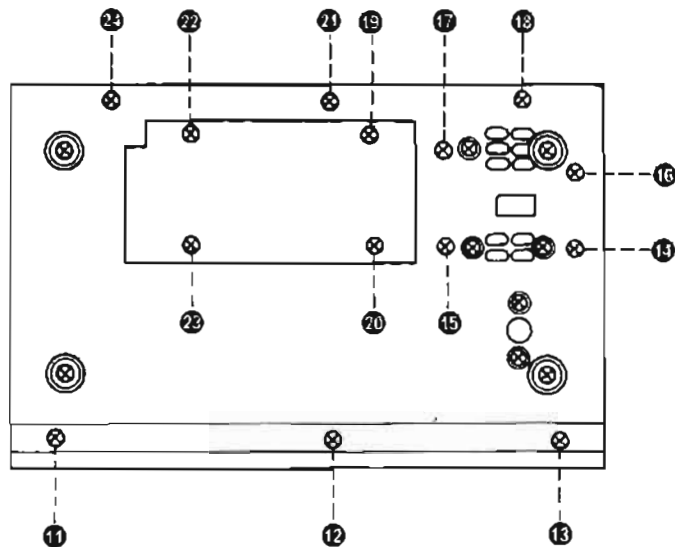

Fig. 2
1. Remove the 14 setscrews (Fig. 2: ⑪ ~ ⑳) of the bottom board.